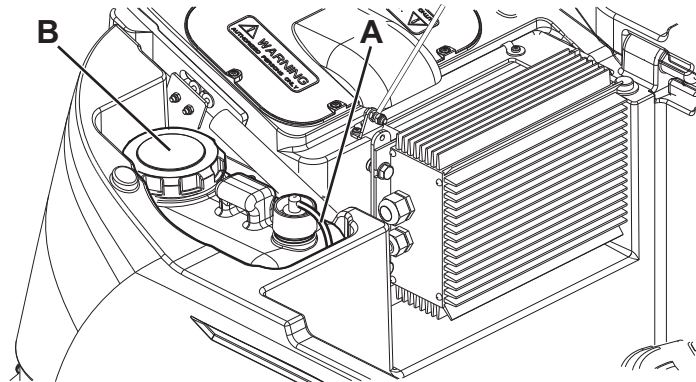

Figure 10
2. Open the cover (20) and check that the recovery tank (19) is empty, otherwise empty it with the drain hose (24). Close the cover (20).
3. Carefully lift the tank assembly (44).
4. Unscrew the plug and disconnect the hose (A, Fig. 10) from the tank (B).
7. Install the tank (42) in the position shown in the figure and connect it to the hose (A).